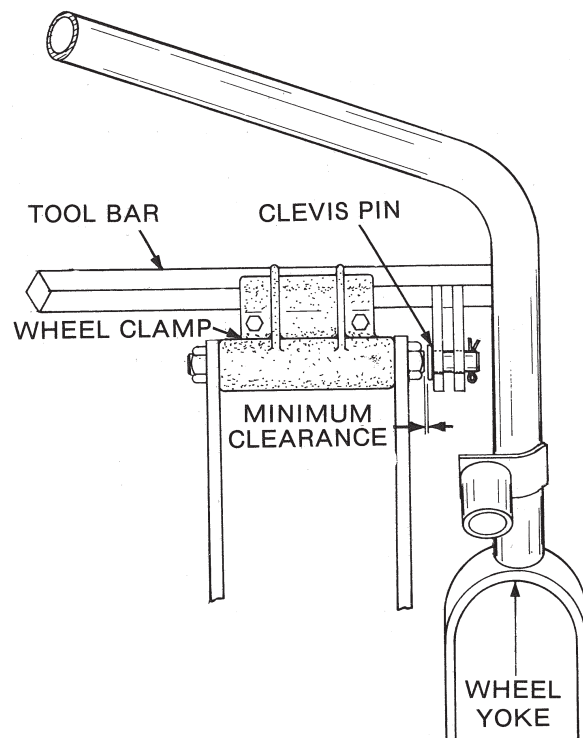

FIGURE 1
6. Attach aerating wheel to square bar on main frame as shown in **Figure 1**.